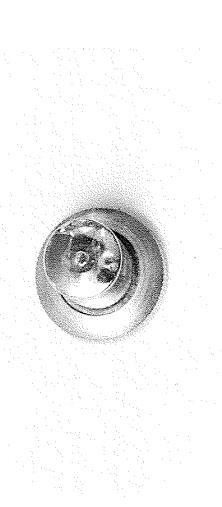

Figure 4
**The Switch For The Windshield Wipers** (1). To activate the wipers, put the switch in the "On" position. The windshield wipers are offered as an option. The switch is protected by a 15 amp fuse.
**The Switch For The Washdown Pump** (2). The washdown pump is in the bilge on the port side. The pump is a pressure demand type pump. To operate the washdown pump option, put the switch for the pump in the "On" position. The switch is protected by a 15 amp fuse.
**The Switch For The Panel Lights** (3). To illuminate the lights, put the switch in the "On" position. The switch is protected by a 5 amp fuse.
**The "Nav-Anchor" Light Switch** (4). The switch is a three-position switch. Push the switch to the left to turn on the navigation lights. Push the switch to the right to turn on the anchor lights. The center position of the switch is the "Off" position. The switch is protected by a 5 amp fuse.
**The Switch For The Cockpit Lights** (5). To illuminate the lights, put the switch in the "On" position. The switch is protected by a 5 amp fuse.
**The Switch For The Bilge Pump** (6). The bilge pump is installed in the center of the bilge. The pump moves water out through the thru-hull fittings in the transom. To start the pump manually, put the switch in the "On" position. The switch is protected by a 5 amp fuse.
**The Horn Button.** See figure 4.